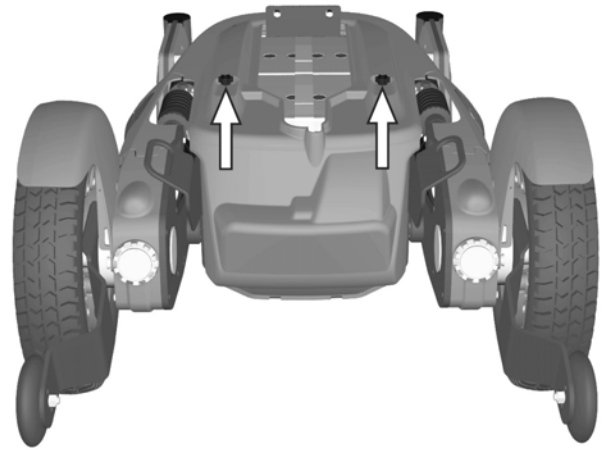

Figure 39. The chassis covers are fitted with two knobs.
8. Assemble the two knobs holding the chassis covers without tightening them. See fig. 39.